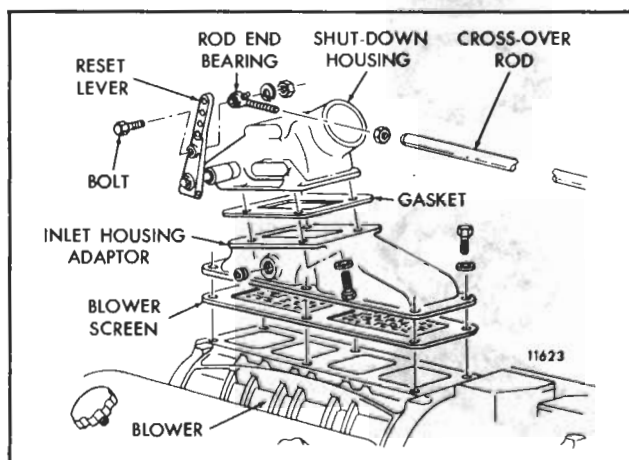

Fig. 4 - Air Shutdown Housing Details and Relative Location of Parts (Rear of Dual Mounting - Turbocharged Engines)
4. When dual air shutdown housings (Fig. 4) have been installed, position the crossover rod between the shutdown housings at the reset lever and the shutdown lever.